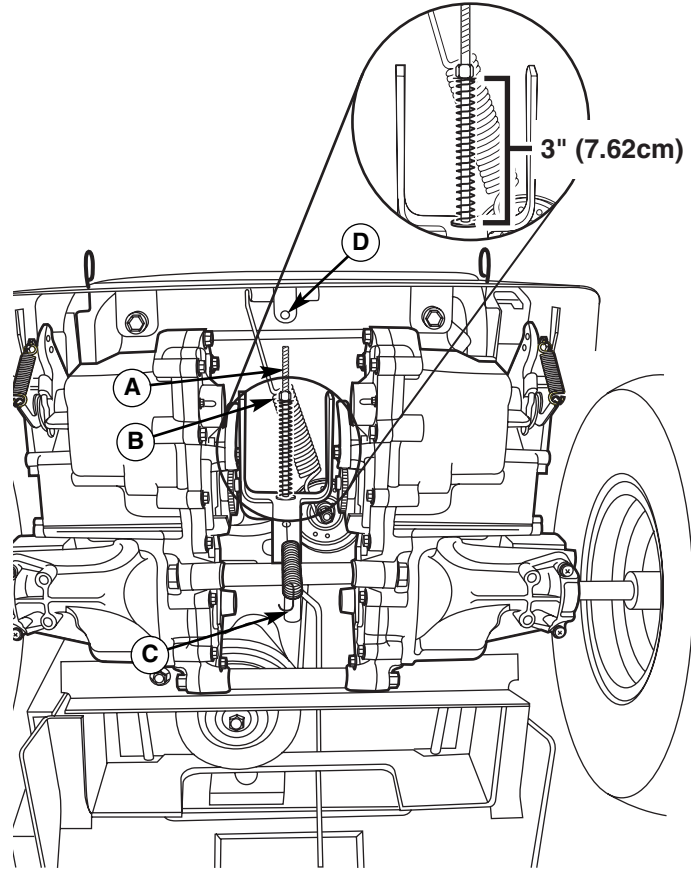

Figure 44. Brake Adjustment
2. Locate the brake rod (A, Figure 44) and adjustment nut (B).
3. Measure the parking brake spring. Its compressed length, with the parking brake lever in the ENGAGE position, should be 3" (7.62cm). Adjust the spring length by turning the adjustment nut (B), if necessary.